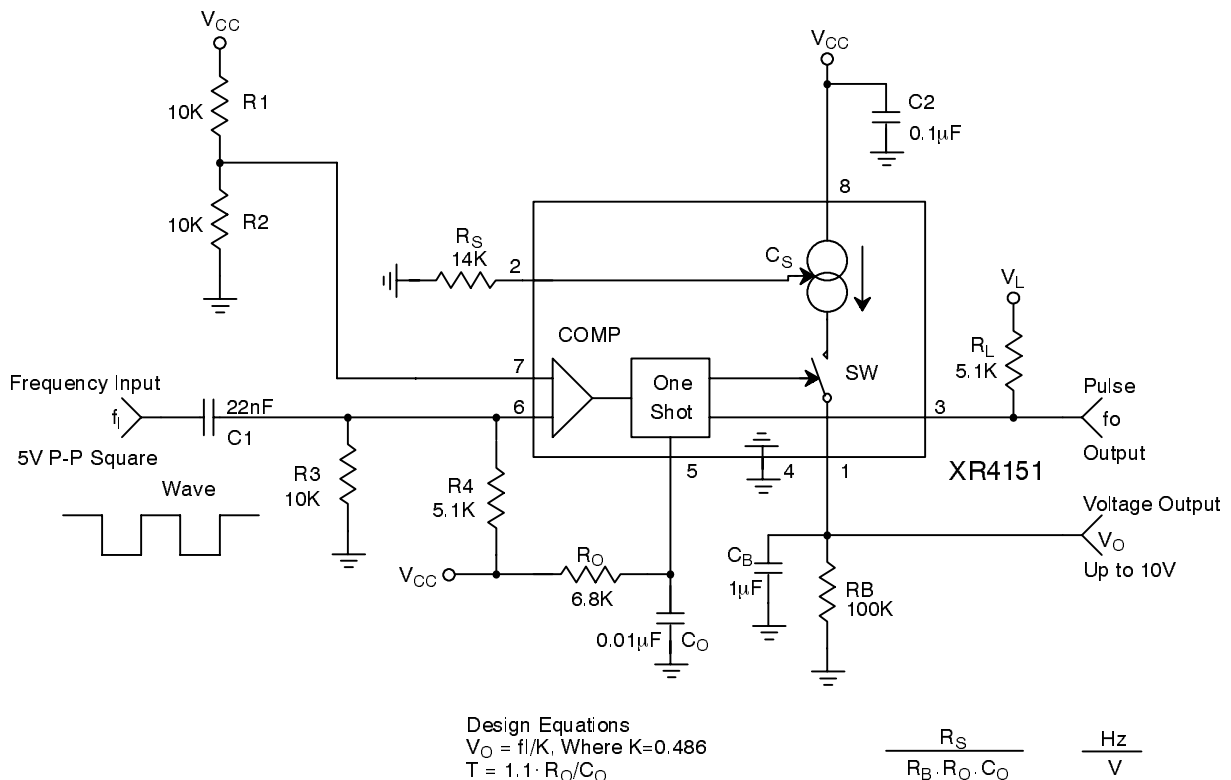

Figure 4. Frequency to Voltage Converter
The XR4151 can be used as a frequency-to-voltage converter. Figure 4 shows the single-supply FVC configuration. With no signal applied, the resistor bias networks tied to pins 6 and 7 hold the input comparator in the off state. A negative going pulse applied to pin 6 (or positive pulse to pin 7) will cause the comparator to fire the one-shot. For proper operation, the pulse width must be less than the period of the one-shot, $T = 1.1 R_0 C_0$. For a 5Vpp square-wave input the differentiator network formed by the input coupling capacitor and the resistor bias network will provide pulses which correctly trigger the one-shot. An external voltage comparator can be used to “square-up” sinusoidal input signals before they are applied to the XR4151. Also, the component values for the input signal differentiator and bias network can be altered to accommodate square waves with different
- I. Design a precision VFC (from *Figure 4*) with $f_0 = 100kHz$ and $V_{IO} = -10V$.